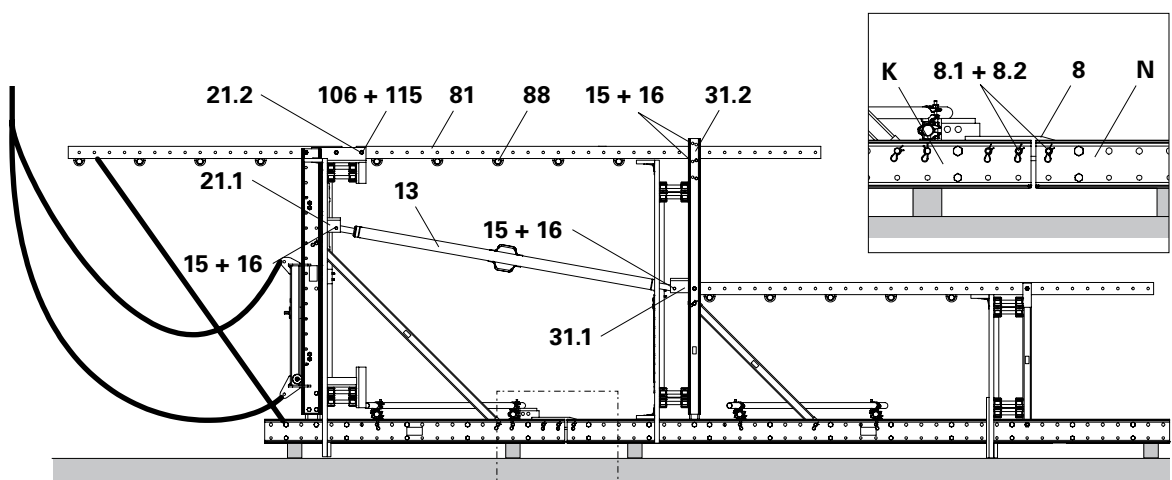

Fig. C4.12
4. As anti-fall protection, connect Scaffold Tubes (**88**) to Clamp A64. (Fig. C4.12)